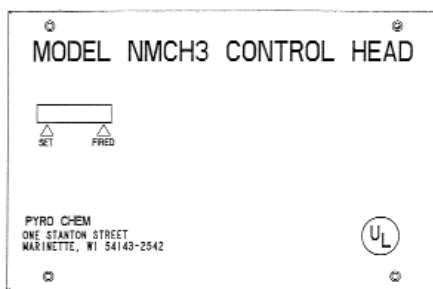

**Figure 2-6. Electric Control Head.**
- ▶ maximum of five (5) cylinders. See **Figure 2-6**.